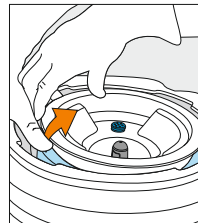

Figure 46
3. Approaching the cooler from left (or right), Place one palm onto the top of the cooler on the side furthest from you, and using your thumb, press downwards on the reservoir Insulation. Using your other hand, grip the edge of the Inner DryGuard™ Cone and pull it up slowly to remove (Figure 46).